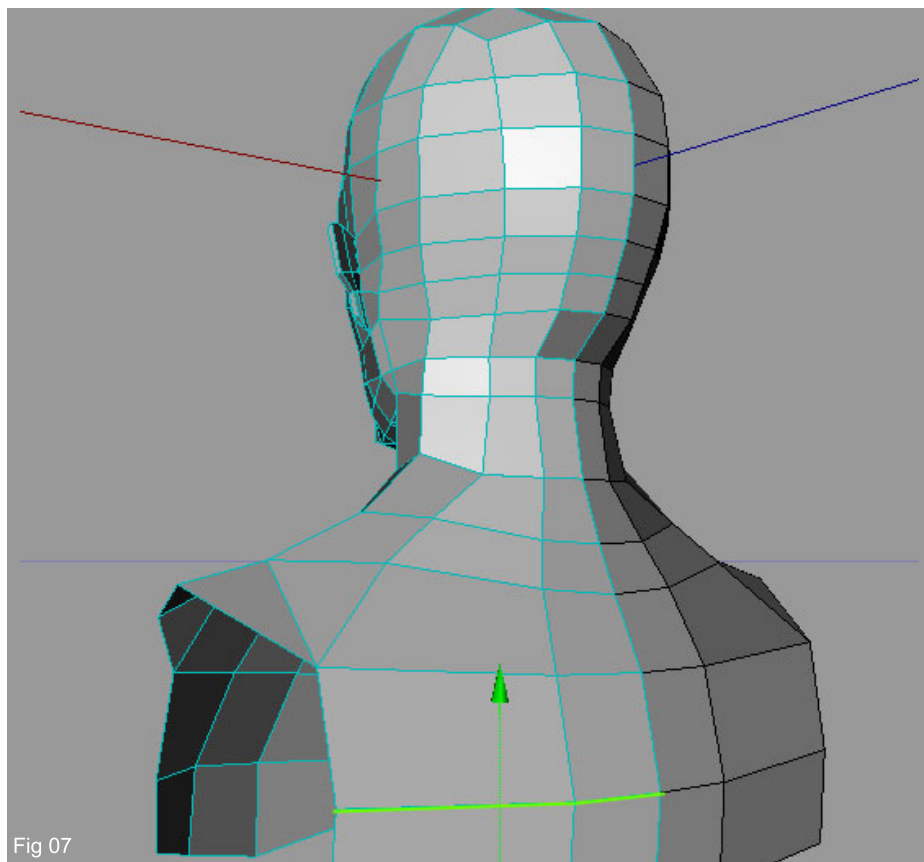

Fig 07
7. Do the same thing to also form upper back (Fig07).